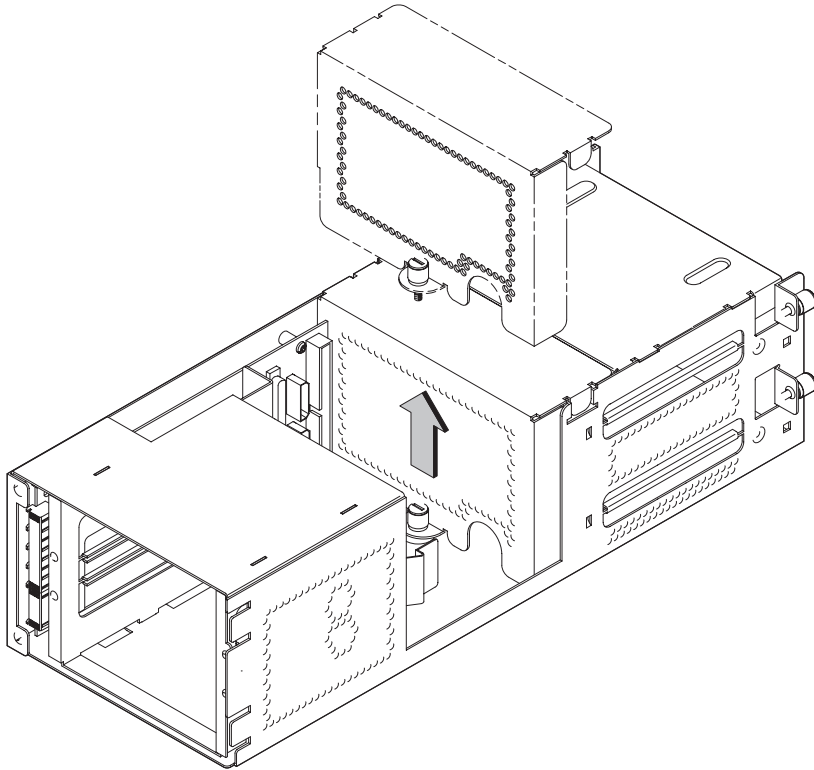

Figure 5-44. Removing EMI Plate
5. Unscrew the captive screw holding the EMI plate at the back of the removable drives and lift the plate up and out of the drawer, as shown in Figure 5-44.